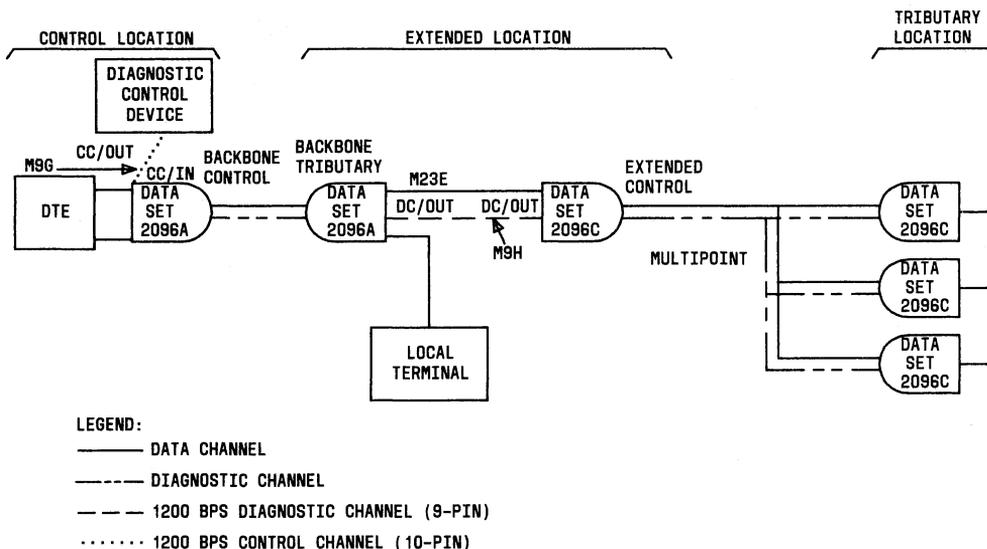

Fig. 31 — Extended Service Example
3.07 Figure 31 shows an example of extended service circuits and a local terminal that are multiplexed over a 9600 bps data link (backbone channel) to a data terminal equipment (DTE). In this example, port speed of 2096C must be either 7200 or 4800 bps to correspond to the port speed of 2096A. The diagnostic connections in this circuit consist of a diagnostic control device (DCD) connected to the control channel (denoted by a dotted line) at the control loca-